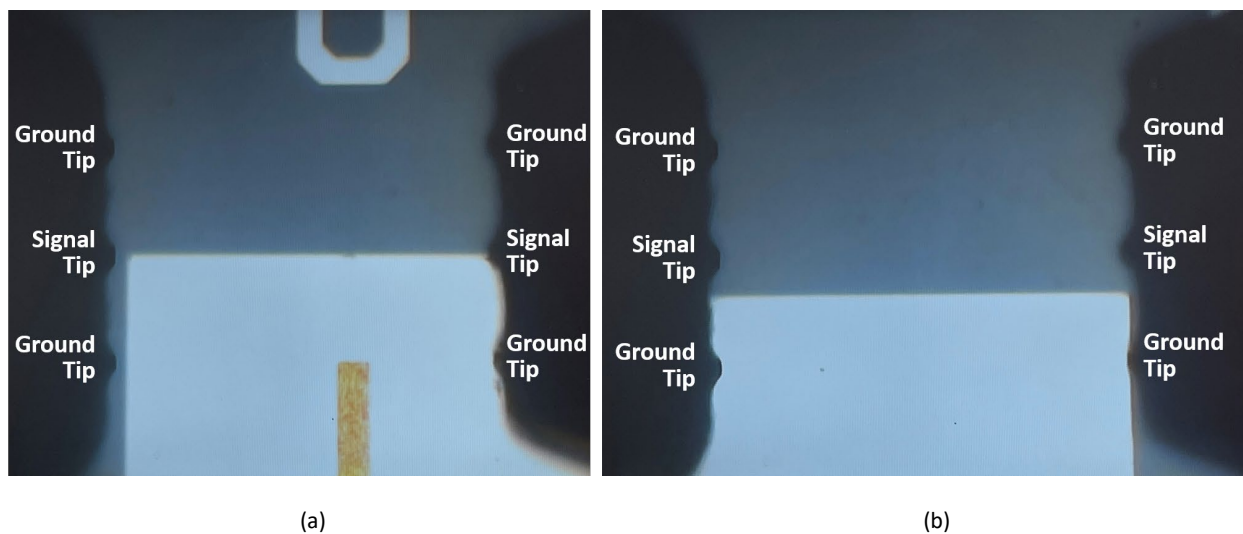

Fig. 5.1. Probes (a) centered on and (b) offset from the alignment edge w.r.t. the y-axis.
- 5.6 Lower the z-lever. You should see the probe shadows through the microscope [Fig. 3.3(b)]. Otherwise, gently adjust the probe positioners while monitoring the probe movement with bare eyes until you can see their shadows through the microscope. Continue adjusting the z-micrometer until the probe tips are visible under the microscope (Fig. 5.1) but not yet touching the ISS.
- 5.8 Move the chuck so that the alignment edge is centered under the probes with respect to the y-axis [Fig. 5.1(a)].
- 5.10 If the probes are no longer centered on the alignment edge [Fig. 5.1(b)], rotate the chuck slightly by turning its ϕ -micrometer (**not the θ -micrometer on the probe positioner!**), then repeat Steps 5.8 and 5.9. Keep in mind that the chuck can only be rotated by $\pm 7^\circ$ maximum.